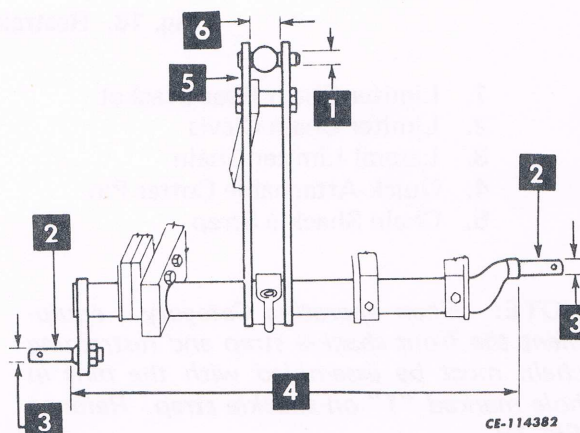

Fig. 20. Dimensions for Category I Equipment
The Category I designation means that the hitch lower links will fit equipment hitching pins spaced 683 mm (26-7/8-inches) (4, Fig. 20) between the shoulders, the swivel sockets in the ends of the lower hitch links will fit the 22 mm (7/8-inch) (3) diameter equipment hitching pins, and the swivel socket on the hitch upper link will fit the 19 mm (3/4-inch) (1) hitching pin on the equipment mast. The space at the top of the mast is 44 mm (1-3/4-inches) (6).